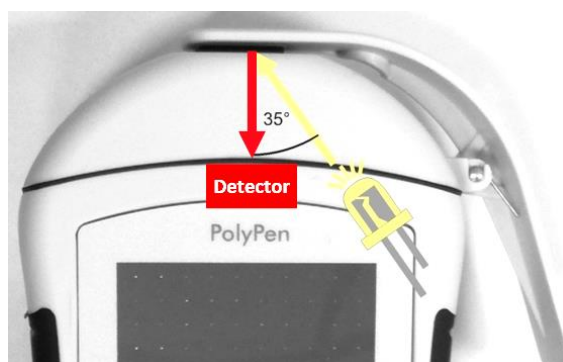

Fig. 2 Schema of measurement with PolyPen device.
- Fig. 2 Schema of measurement with PolyPen device.